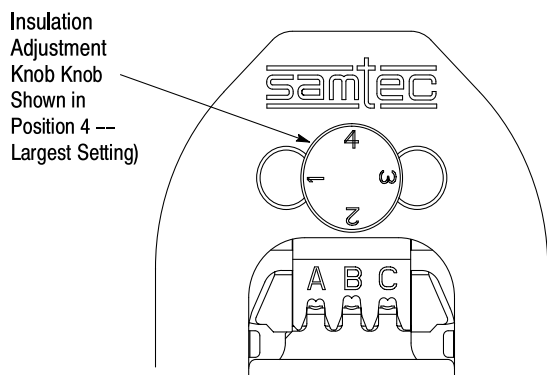

Figure 3
On many tools, the insulation barrel crimp height is regulated by the insulation adjustment knob (Figure 3). The insulation crimp should hold the insulation firmly without cutting into the insulation. To determine the proper insulation crimp setting, test crimp a loose piece contact using the setting which corresponds to the insulation diameter: (1) — small; (2) and (3) — medium; or (4) — large. If the crimped insulation barrel is too tight or loose, change the setting by pulling out and rotating the adjustment knob to the desired setting.